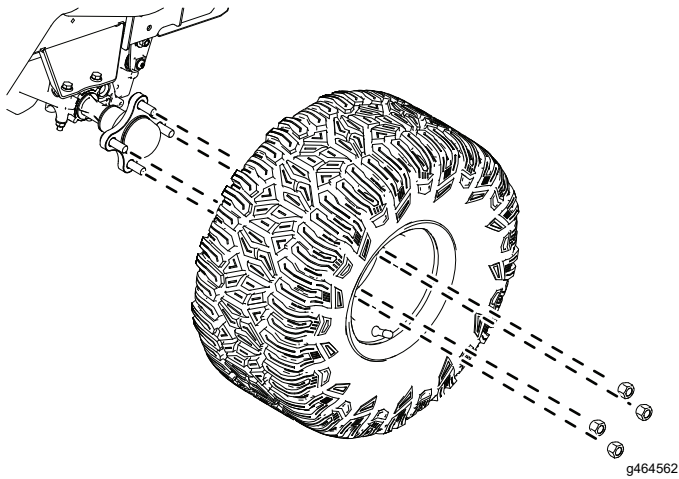

Figure 4
10. Remove the rear tires as shown in Figure 4
1. Install the rear tires as shown in Figure 4.